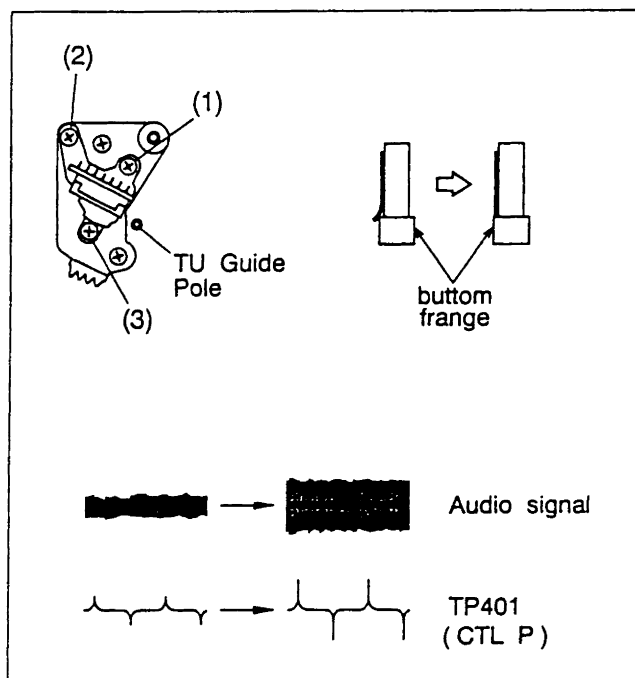

Fig. 2-7-5
- (1) Use spare tape and set for playback.
- (2) Turn screw (3) clockwise to where the tape curls just slightly at the TU guide pole bottom flange as shown in Fig.2-7-5.
- (3) Then slowly turn screw (3) counterclockwise to where the curling ceases.